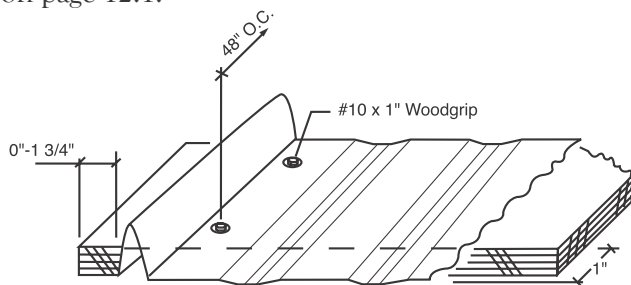

Figure 2
3. Check panel alignment. If panel is properly aligned, attach rake edge to roof with a 1" painted neoprene woodgrip spaced at 48" on center. See Figure 2. Then fasten the panel along the male edge fastening flange with 1" low profile pancake head. Special care has to be taken not to overdrive the screws in the male edge fastening flange. The screw flange is slotted to allow for slight panel movement during normal expansion and contraction. To avoid panel distortion and to allow for maximum expansion and contraction of the panel, the screws should be snugged against the flange, but not so snug that the flange deflects under the screw head. To allow for movement of the panel towards the eave or ridge, place the fastener in the middle of the 5/8" slot. See fastener spacing section on page 12.1.